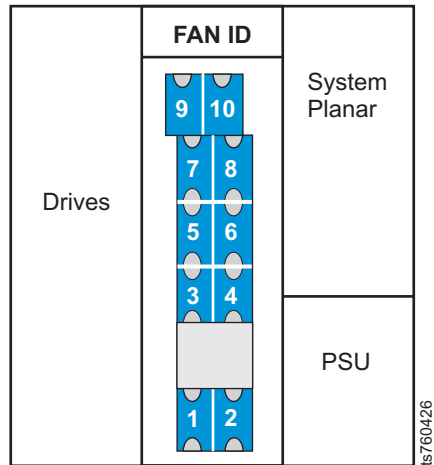

Figure 31. Cooling fan layout
- c. Using Figure 31 on page 57 for reference, locate the defective cooling fan.